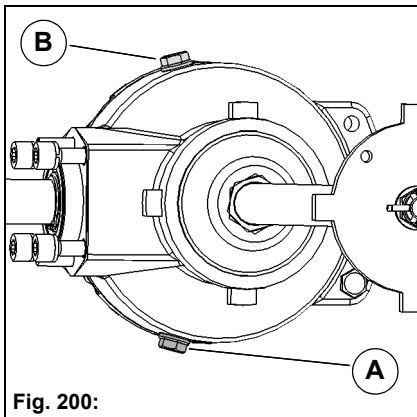

Fig. 200:
1. Place a suitable collecting pan under the drain screw **Fig. 200-A**.
4. Unscrew the filling screw **Fig. 200-B** and fill with SAE 80W90 gearbox oil. Filling volume = 0.4 litres.